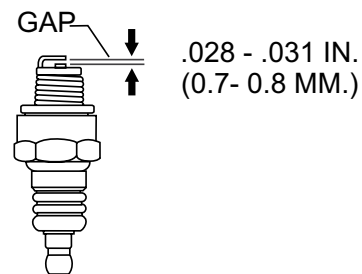

Figure 23. Spark Plug Gap
1. Remove and clean spark plug (Figure 23) with a wire brush if it is to be reused. Discard spark plug if the insulator is cracked or chipped.